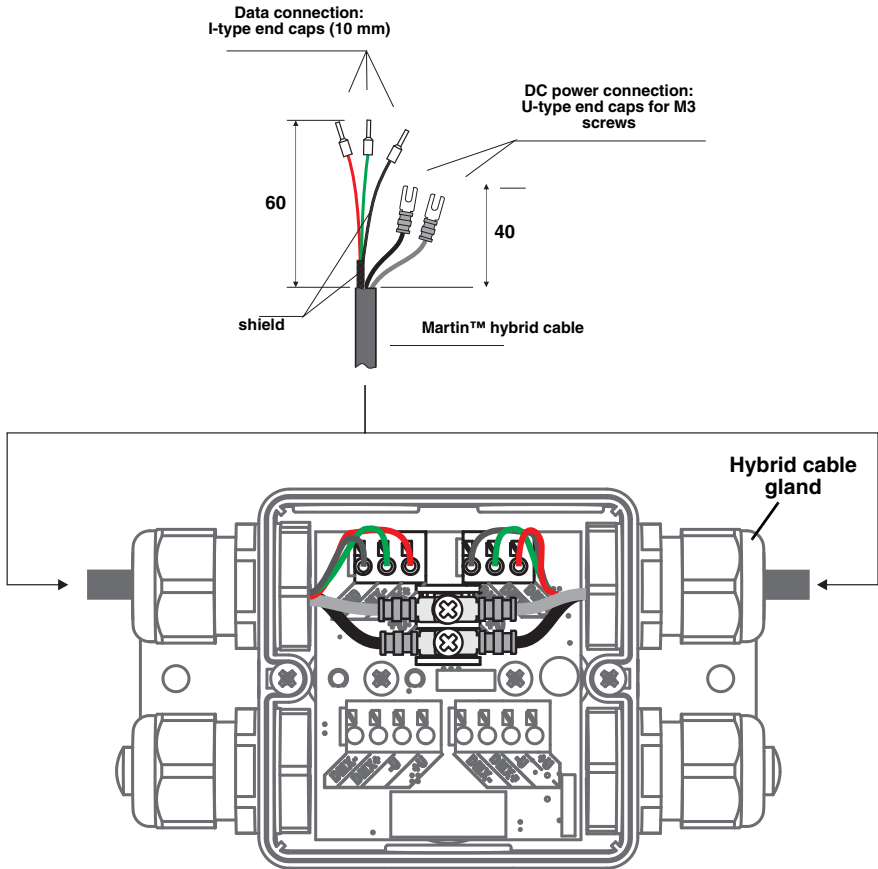

Figure 21: Hybrid cable connections in Splitter
2. See Figure 21. Prepare a suitable length of Martin™ hybrid Splitter cable for connection to the Splitter:
3. See "Installing a cable in a cable gland" on page 23. Pass the hybrid Splitter cable through one of the hybrid (larger cable diameter) cable glands on the Splitter as shown in Figure 21.